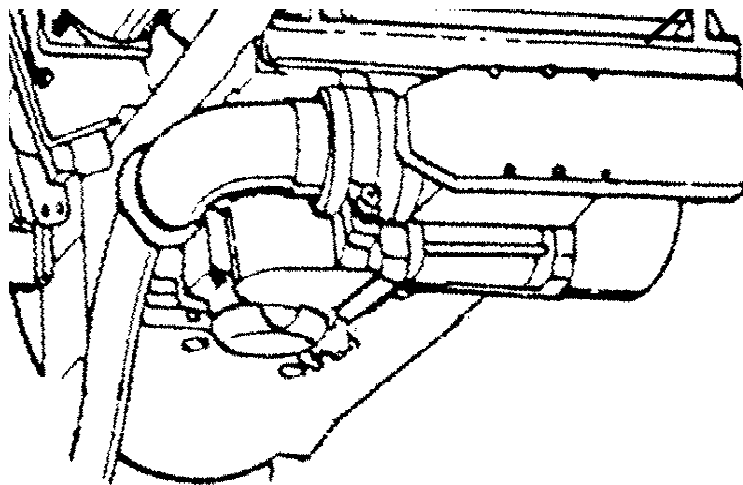

Figure 2-34. M2/M3 Main Gun Receiver Feeder Handle.
- e. Lift Feed Handle up on main gun receiver (Figure 2-34).